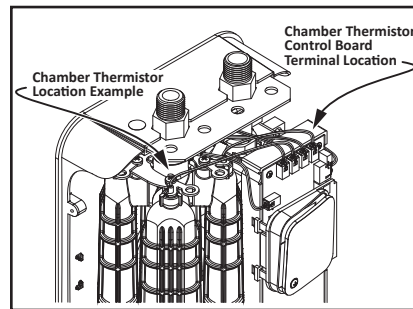

Figure 25 - Chamber thermistor location.
With the front cover removed, take a moment to record or photograph how the chamber thermistor is installed and which control board terminal the wire harness is plugged into. See Figure 25.
**3** Properly plug the chamber thermistor wire connector(s) into the control board. Make sure the chamber thermistor wire harness connections are connected to the proper control board terminals. See Figures 25 and 26.